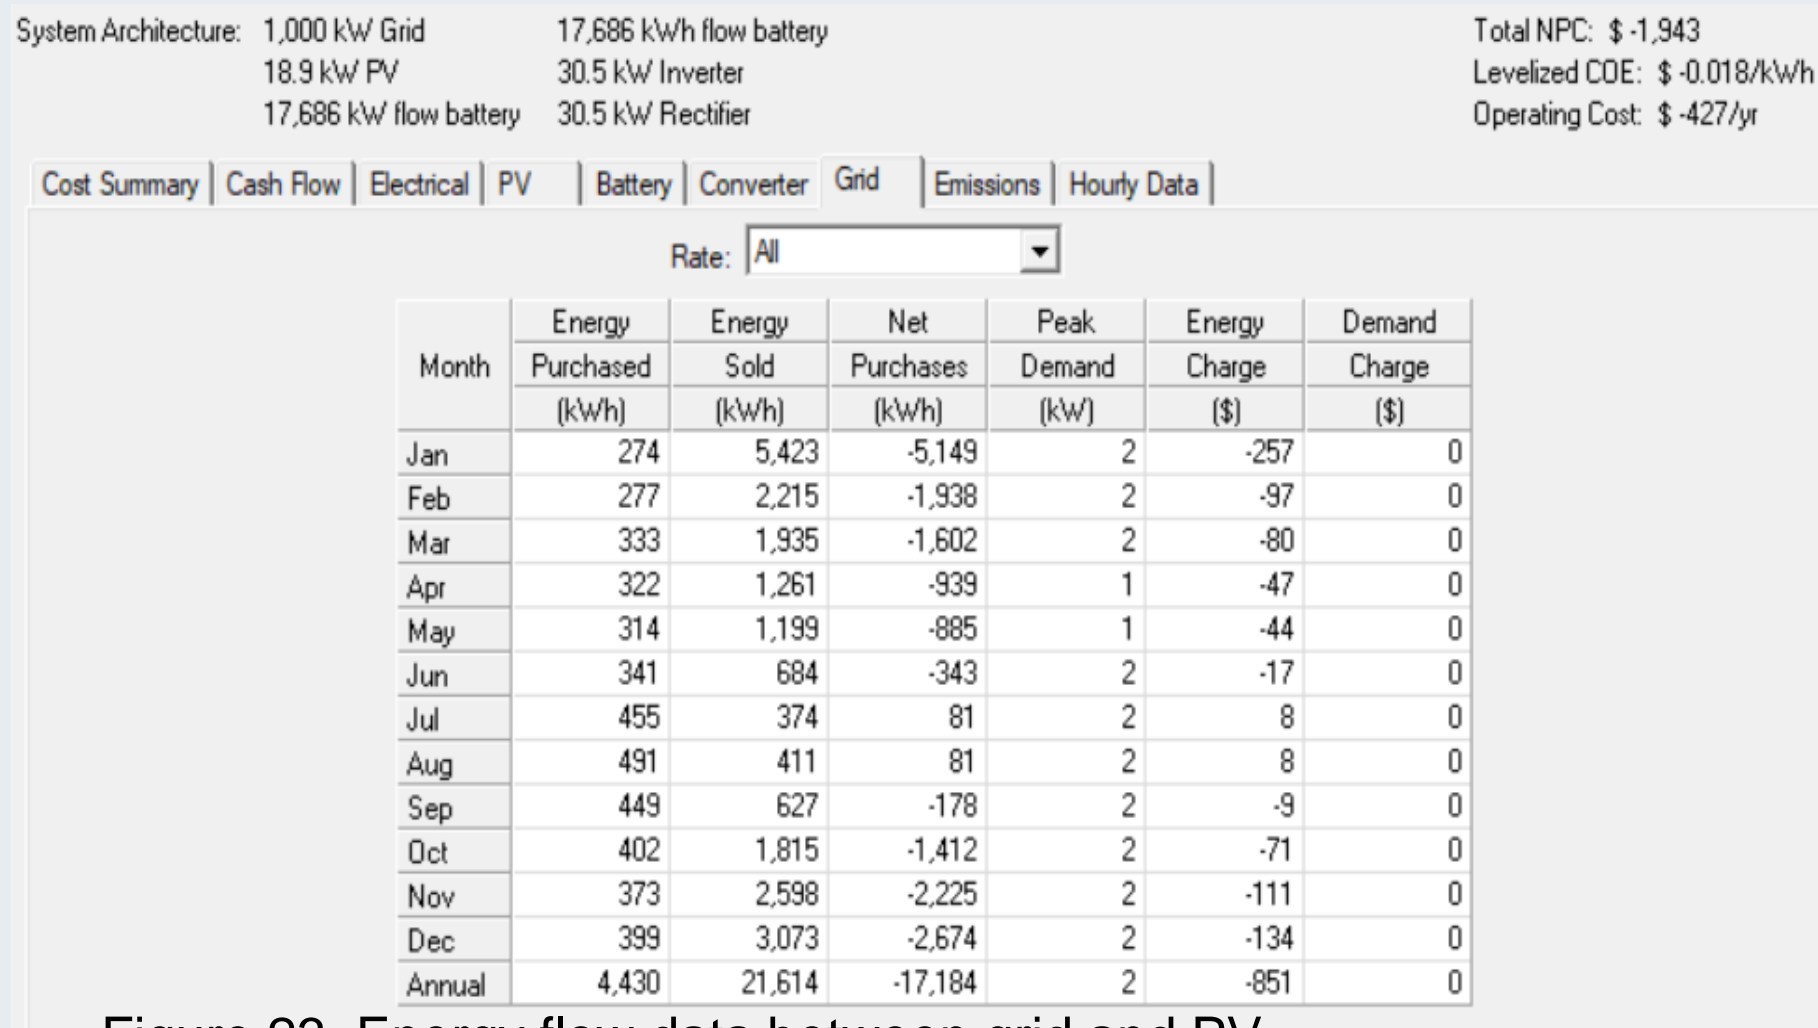

Figure 23. Energy flow data between grid and PV
- Energy flow data between grid and PV is given in Fig.23